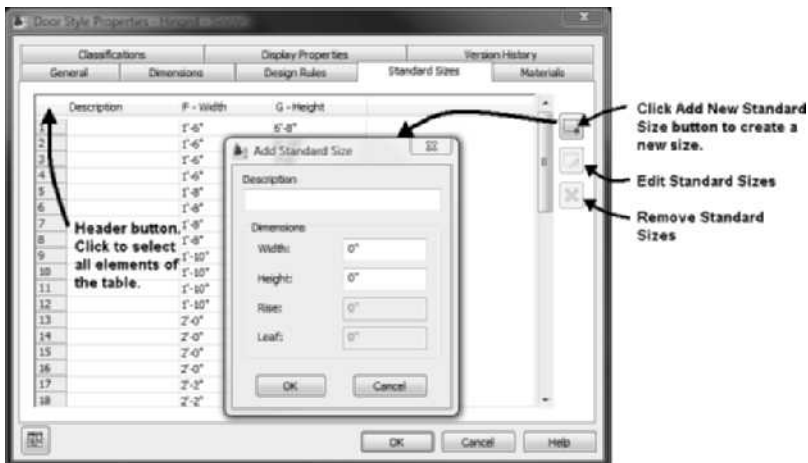

FIGURE 5.23 Standard Sizes tab of the Door Style Properties dialog
10. Choose the **Standard Sizes** tab of the Door Style Properties dialog box. The sizes listed in the Standard Sizes table include **Description**, **F-Width**, **G-Height**, **H-Rise**, and **J-Leaf**. These dimensions are illustrated on the **Dimensions** tab in Figure 5.23. The H-Rise is inactive unless the door shape is Gothic, Arch, or Peak Pentagon. The J-Leaf column is inactive unless the door type is set to Uneven.
11. Choose the Add New Standard Size button to create additional standard sizes. Selecting the Add New Standard Size button opens the **Add Standard Size** dialog box as shown in Figure 5.23. You can create sizes by editing the **Width**, **Height**, **Rise**, and **Leaf** fields of the **Add Standard Size** dialog box. You can choose the Edit Standard Sizes or Remove Standard Sizes to modify the list.